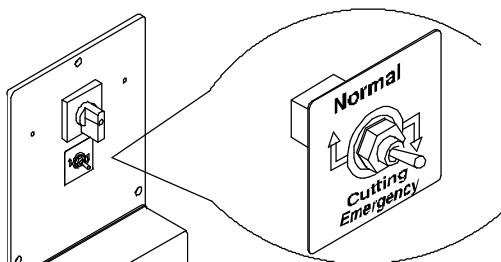

Fig. 19
- 1) Lower the switch lever, placed on the electrical equipment box, to the Cutting Emergency position (Fig. 19).